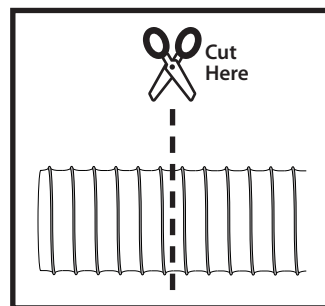

FIG. 15a
Cut the 10" Diameter Flex Hose (J) in half using razor knife and diagonal cutter to cut through the clear lining and reinforcing wire. [FIG. 15a].